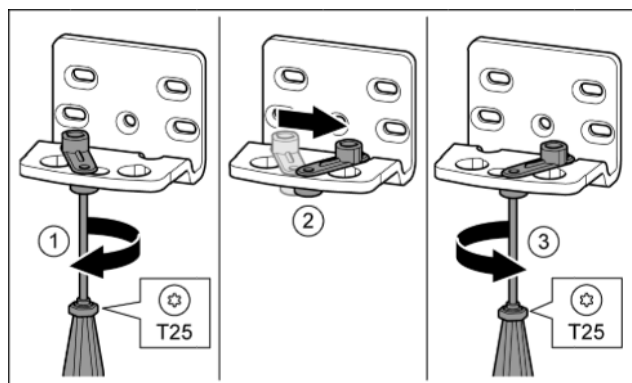

Fig. 11
- Loosen screw using a T25 screwdriver. Fig. 11 (1)
- Lift the door closure aid and turn it 90° to the right in the hole. Fig. 11 (2)
- Tighten screw using a T25 screwdriver. Fig. 11 (3)